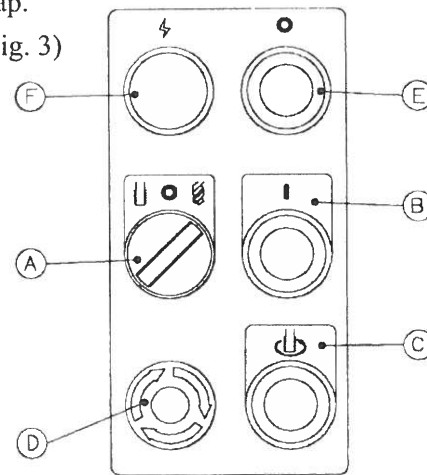

Fig.3
- (1) Turn the select switch A (see Fig. 3) to " TAPPING " position when you want to do tapping work.
- (2) Handling down the quill and setting up the stroke of tapping depth by graduated rod.
- (3) Check the proper speed of spindle for your tapping condition.
- (4) Push down the start button B (see Fig. 3) and begin to tap.
- (5) If anything fails, put down the emergency stop D (see Fig. 3) and the machine will stop immediately.
- (6) Release the emergency stop D and the push down the reversing button C, the tap will go reverse back out.
- (7) After finishing your tapping work, Remember to turn the select switch A to " NEUTRAL " position.
- (8) Push E to stop the machine.
- (9) Power light F .